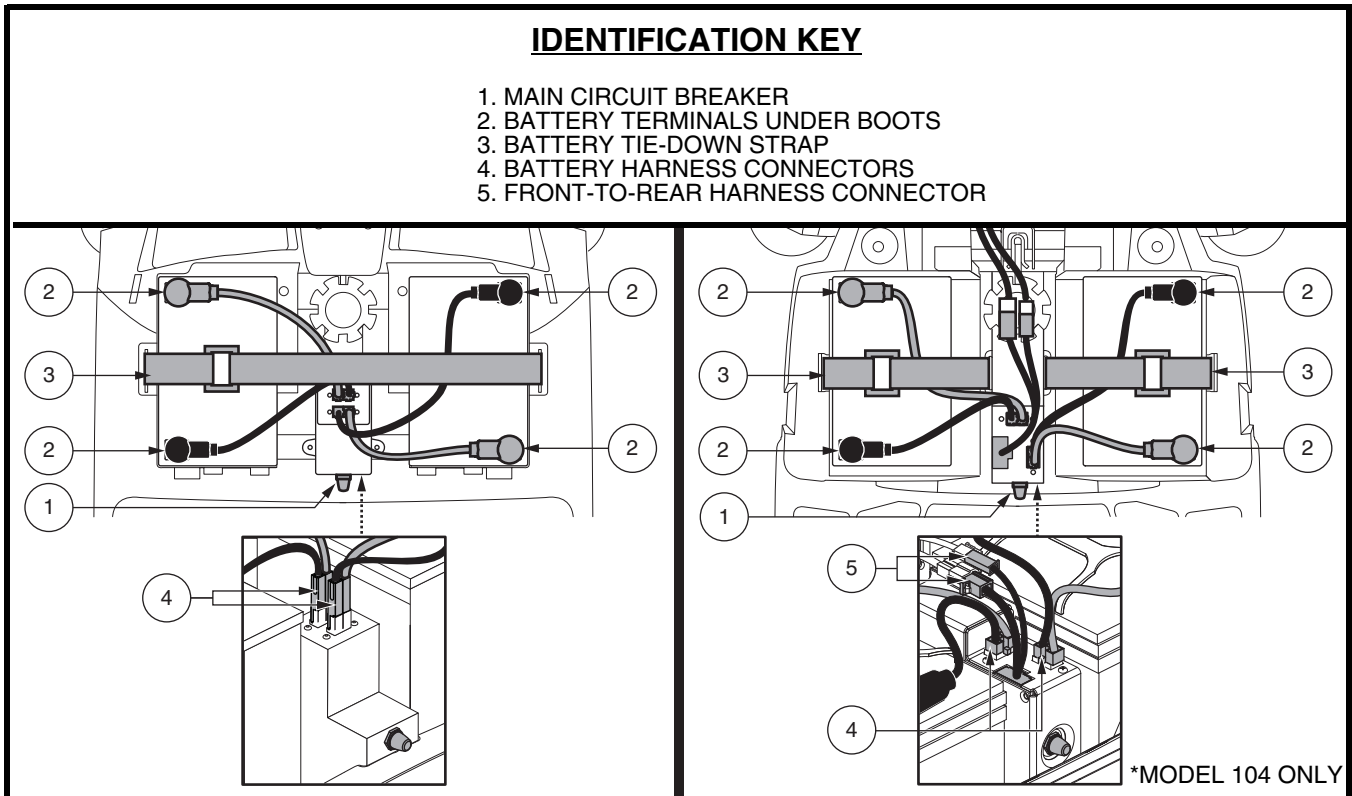

Figure 10. Battery Removal/Installation Terminals and Connections
2. Disconnect the battery tie-down strap. See figure 10.
3. Disconnect the battery harnesses by depressing the tabs on the battery harness connectors and pulling them straight up. See figure 10.